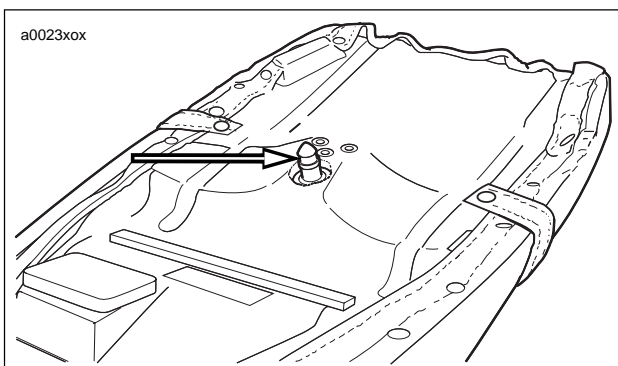

Figure 2-115. Underside View of Seat with Locating Tab
1. See Figure 2-115. Locate tab on bottom of seat.